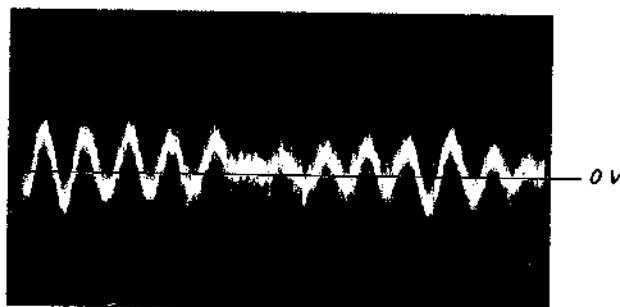

Fig. 9
2. Connect the oscilloscope to servo board test point TP9 (TE).
4. Turn RV501 slightly clockwise (tracking gain drops) and obtain a waveform with a fundamental wave (waveform has large waves) as in Fig. 9.